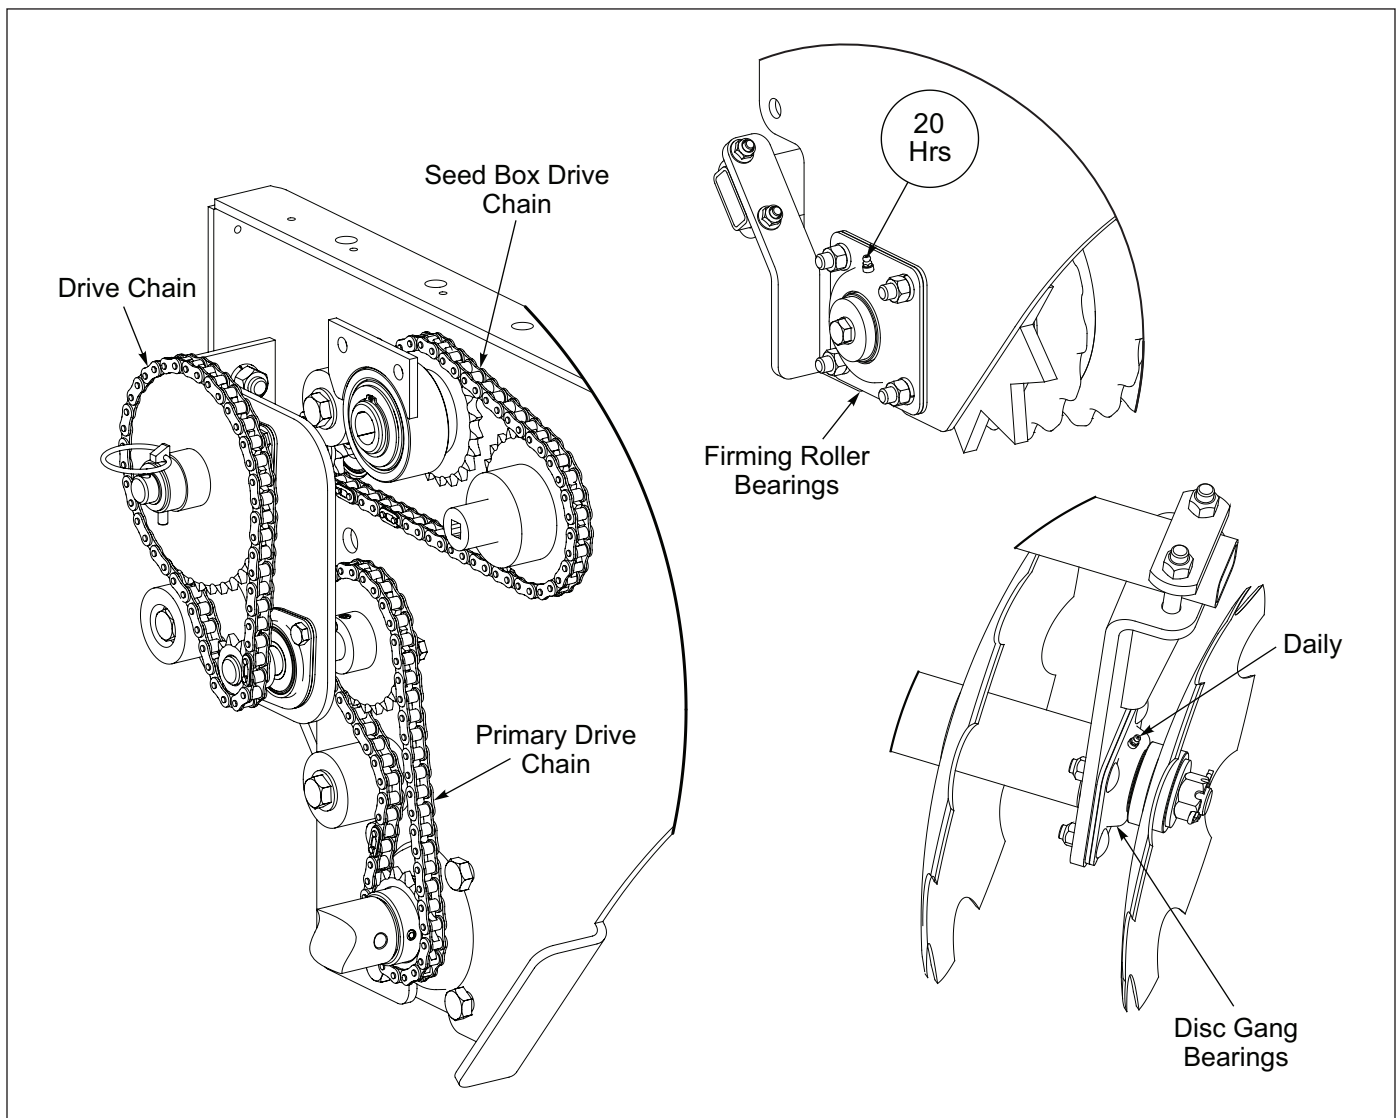

Figure 4-1: Lubrication Locations
- Seeder has Greaseable Bearings on the ends of the Firming Roller and should be greased every 20 hrs. **See Figure 4-1.**
- Grease Disc Gang Assembly Bearings daily at the start of each work day. **See Figure 4-1.**